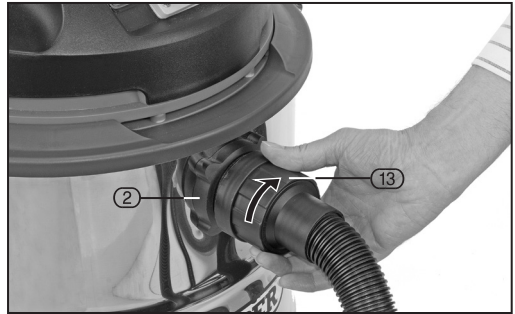

FIG. 9
7.5 CONNECTING ATTACHMENTS – FIGS. 9 - 10